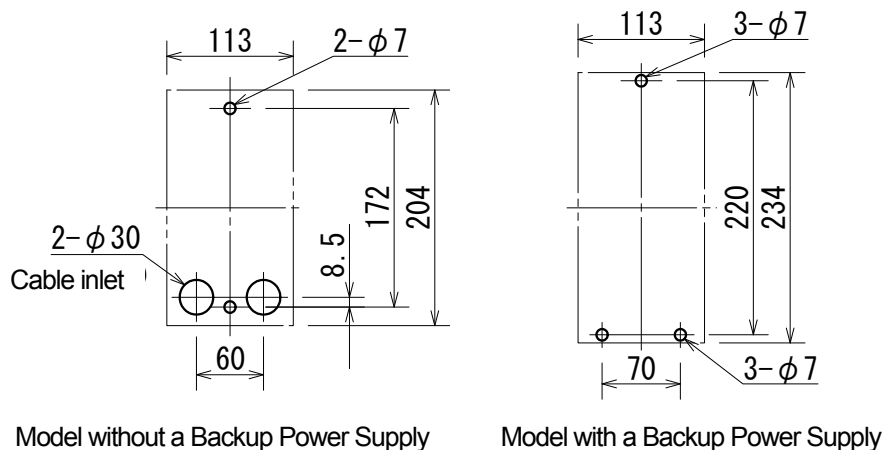

Figure 4 Dimensions for Installing the NV-100M on a Wall
(1) Installing the NV-100M on a Wall
- ① Make holes in the wall as shown in Figure 4.
- ② If the NV-100M has a backup power supply, attach the two mounting plates to the top and bottom of the NV-100M.
- ③ Align the anchors with the holes, and then insert a bolt into the upper hole.
- ④ Hook the hole on the top of the NV-100M on the top bolt, insert the bolt into the bottom hole, and then tighten both bolts.